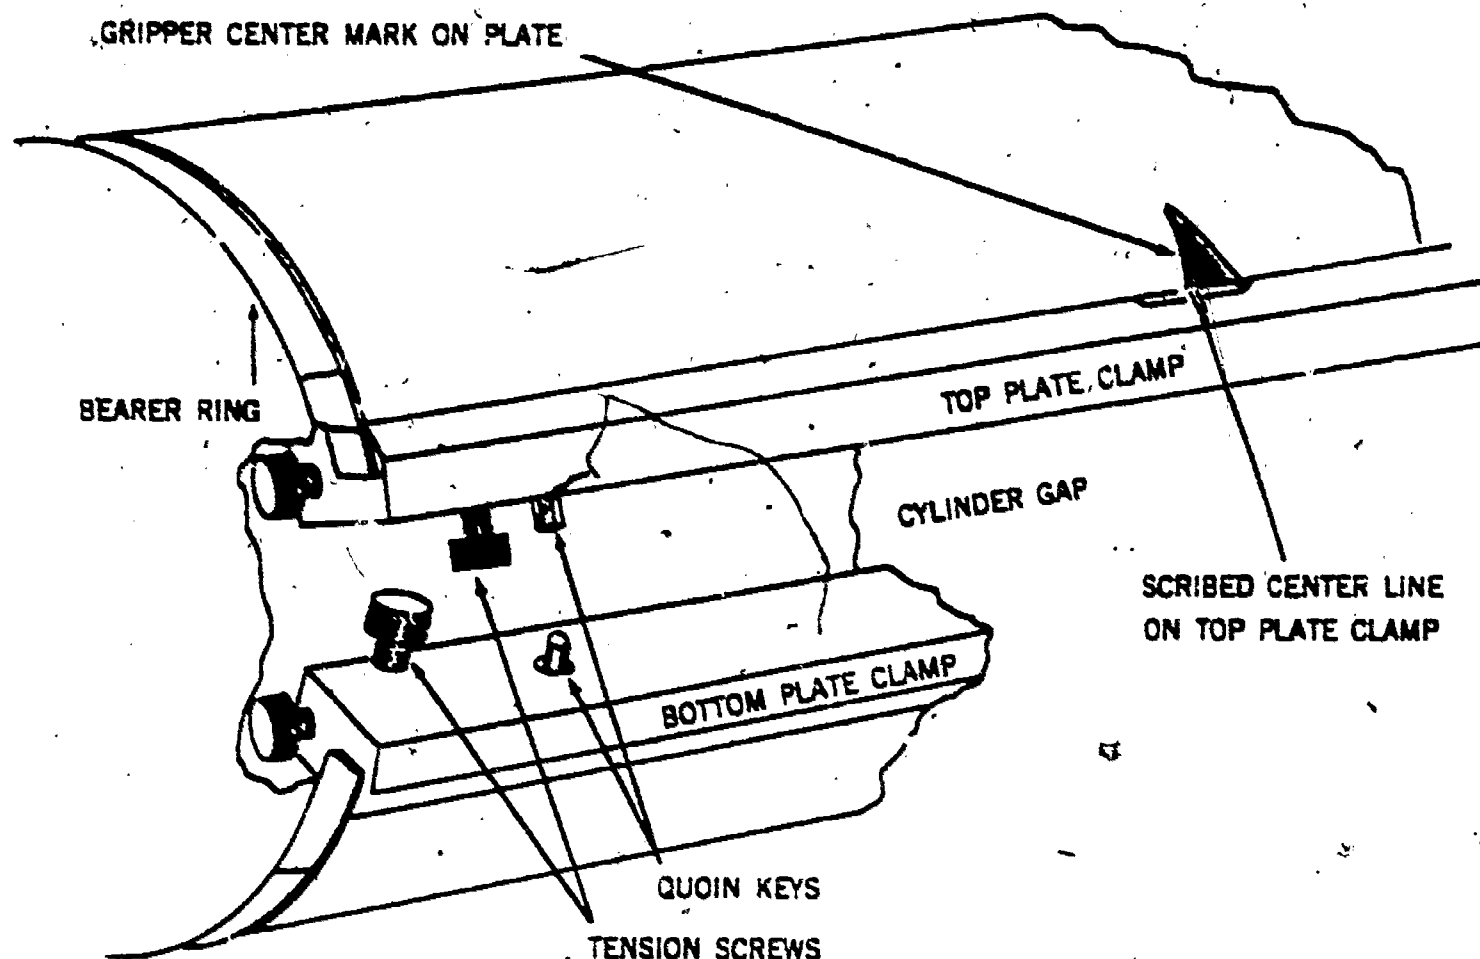

Figure 8-27. Mounting plate on plate cylinder.
d. *Preparing and Mounting Plate* (fig. 8-27)
(1) Before working on the plate, remove the cylinder guard. This guard, of course, is never removed until the operator has assured himself that the safe switches are turned to "safe," disconnecting all power from the press. As long as this guard remains off, the cylinders can be moved only by turning the flywheel manually. Power must never be used while mounting a plate.
(2) The plate must be "miked" before mounting. Check several points, not near the clamp edges, and take an average. Select enough paper packing to total .016 inch when added to the thickness of the plate. For instance, one brand of commercial, presensitized plate averages .006 inch thick which means that approximately .010 inch of paper packing must be inserted under this type of plate.
(3) Loosen the plate clamps by turning the quoin keys counterclockwise and back off the tension screws. This permits a maximum amount of adjustment when subsequently tightening the plate around the cylinder.
(4) With the image side of the plate out, insert the gripper edge of the plate as far as possible into the top plate clamp. If the plate is not inserted into the clamp the full distance, it is apt to go around the cylinder crooked and pull out of the clamp when it is being tightened. Center the plate in the top plate clamp by lining up the gripper center mark on the plate with the scribed centerline on the plate clamp. If the top plate clamp does not have a scribed center line, center the plate in the clamp by aligning the right (operator's side) edge of the plate with the right edge of the cylinder surface. When the plate is centered, tighten the top clamp. Make certain that the clamp is flush with the top of the cylinder gap. If the top plate clamp is not perfectly aligned with the gap, the plate will not tighten evenly around the cylinder.
(8) Take the slack out of the plate by tightening the tension screws (fig. 8-27). Do not over-tighten these screws or the plate will be stretched and torn or pulled out of the plate clamps. When a crease begins to appear in the plate at the points where it passes over the cylinder gap, tap the plate gently with a wrench. If the plate is tightened sufficiently, the resulting sound will seem to come from a solid object.
(9) Push either of the manual impression trips, remove the strip of paper from under the automatic trip, and turn the press forward one revolution to take the impression "off." Tear away any excess packing extending past the plate.
(10) When removing the plate, free the tail edge from the bottom clamp first, and turn the press backward by hand until the plate is off the cylinder. Then loosen the plate clamps on the gripper edge and remove the plate from the press.
(11) Flatten the creases in the plate with a plate roller and either place the plate in storage or send it to be grained.
(12) After work on the blanket and plate has been completed, replace the cylinder guard.